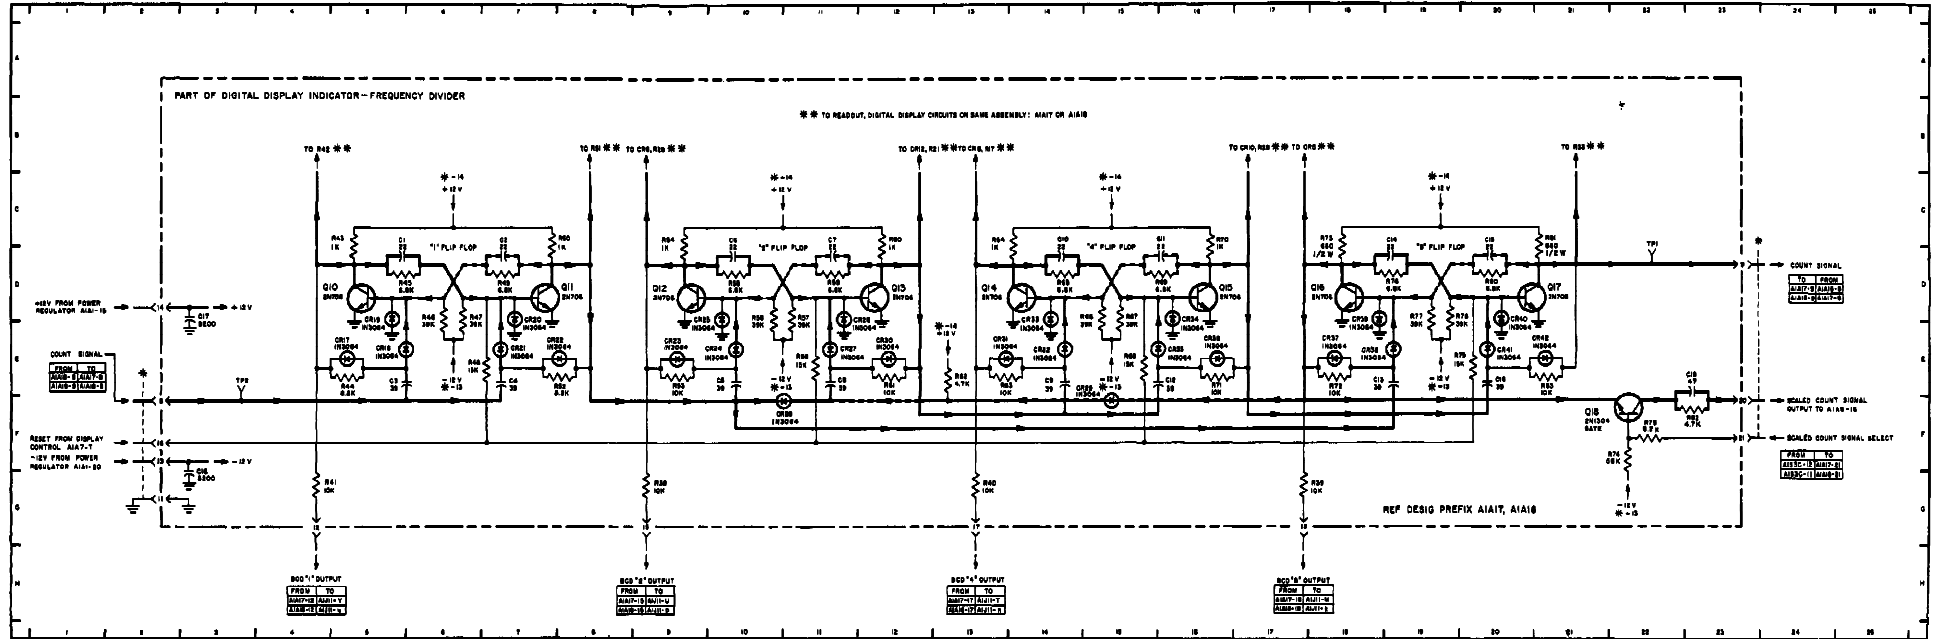

Figure 5-74. Function Switch, Wafer I, Time Base Switch, Wafer C, and Standard Frequency Output Switch, Schematic Diagram
- Counter portions of assemblies A1A17 and A1A18 are identical and are represented by figure 5-74.